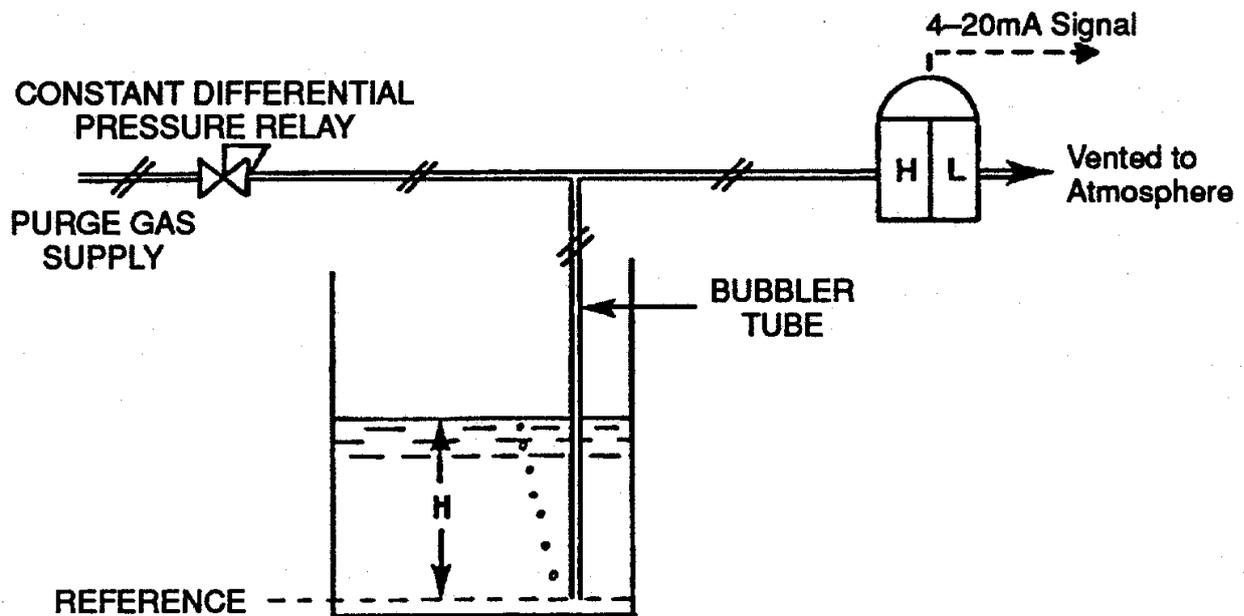

Figure 8: Bubbler Level Measurement System In Open Tank Application.
- As shown in Figure 8, a bubbler tube is immersed to the bottom of the vessel in which the liquid level is to be measured.